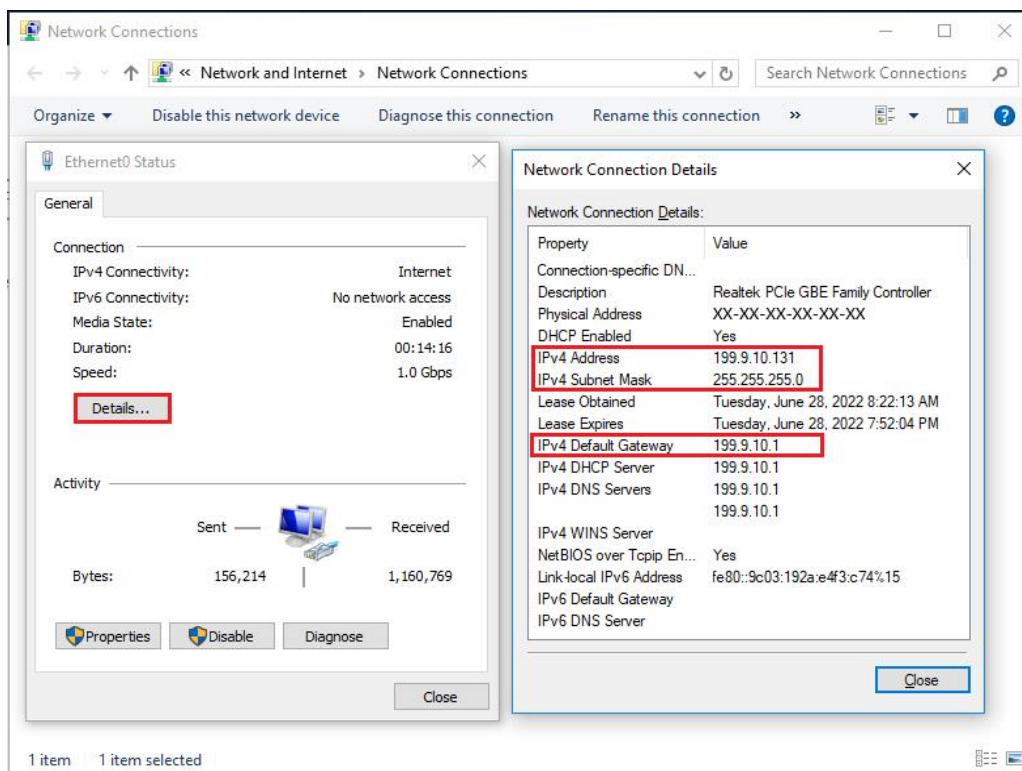

Figure 2-22 Check the LAN information
2. Check the LAN information. See Figure 2-22.